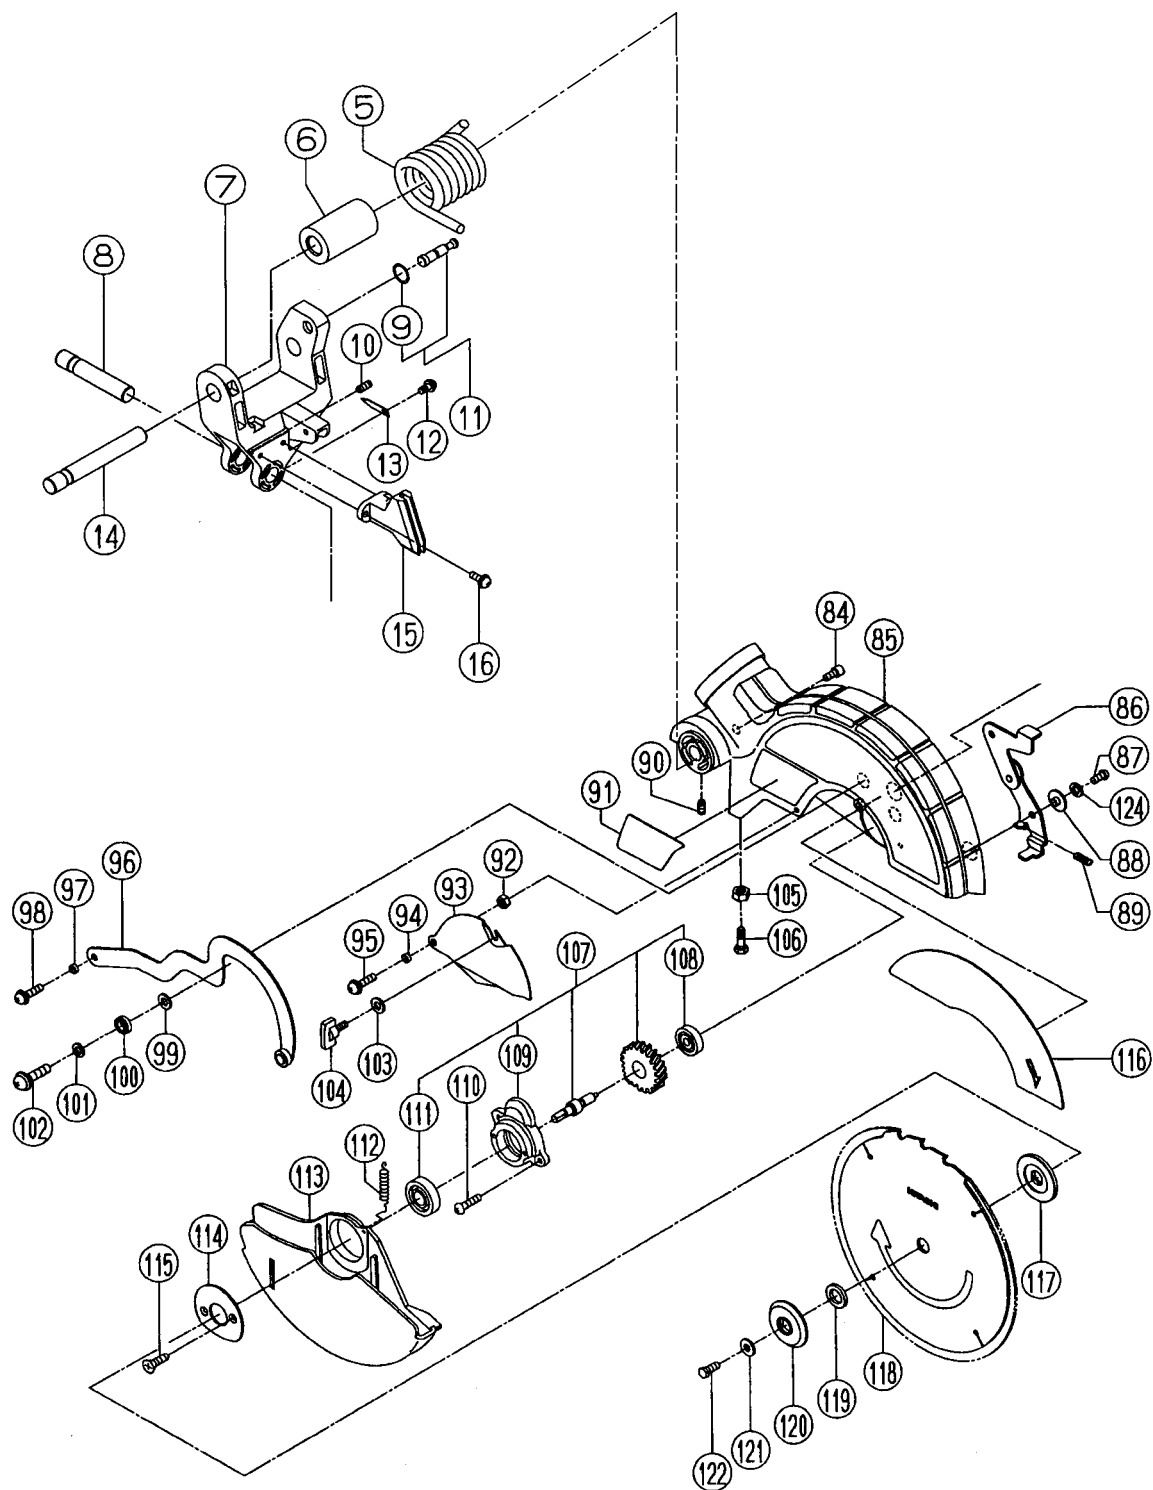

Fig. 16
- (1) The vise assembly can be mounted on either the left fence (fence (B)) or the right fence (fence (A)) by loosening 6 mm wing bolt (A).
- (2) The screw holder can be raised or lowered according to the height of the workpiece by loosening 6 mm wing bolt (B). After the adjustment, firmly tighten 6 mm wing bolt (B) and fix the screw holder.
- (3) Turn the upper knob and securely fix the workpiece in position (Fig. 16).